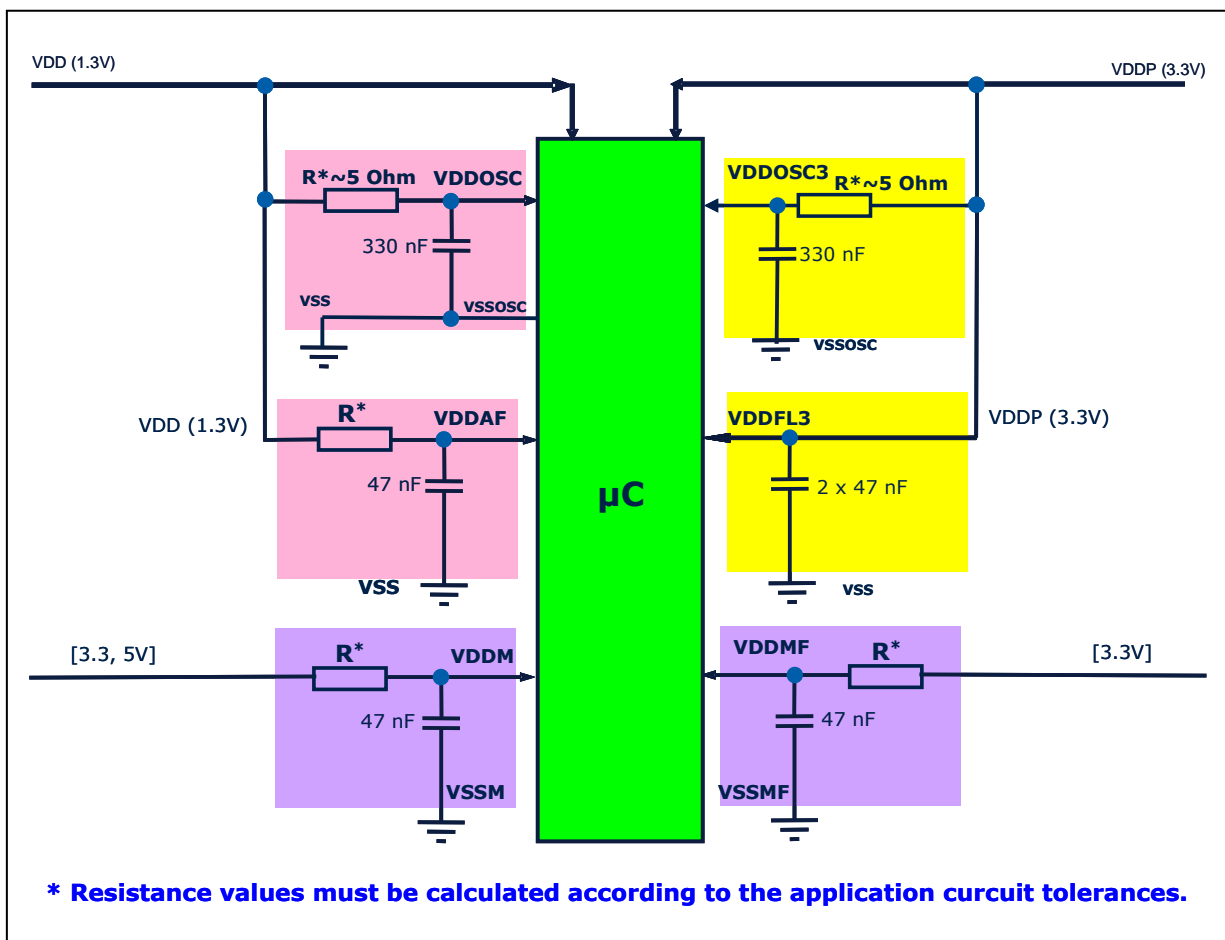

Figure 2 Filtering of VDDOSC, VDDOSC3, VDDFL3, VDDM, VDDMF, VDDAF supply pins
- RC Filters can be inserted in the supply paths at the regulator output and at the branchings to other module supply pins like VDDOSC, VDDOSC3, VDDFL3, VDDM, VDDMF, and VDDAF. Using inductance or ferrite beads (5 – 10 μ H) instead of the resistors can improve the EME behaviour of the circuit and reduce the radiation up to ~10dB μ V on the related supply net. (See Figure 2).